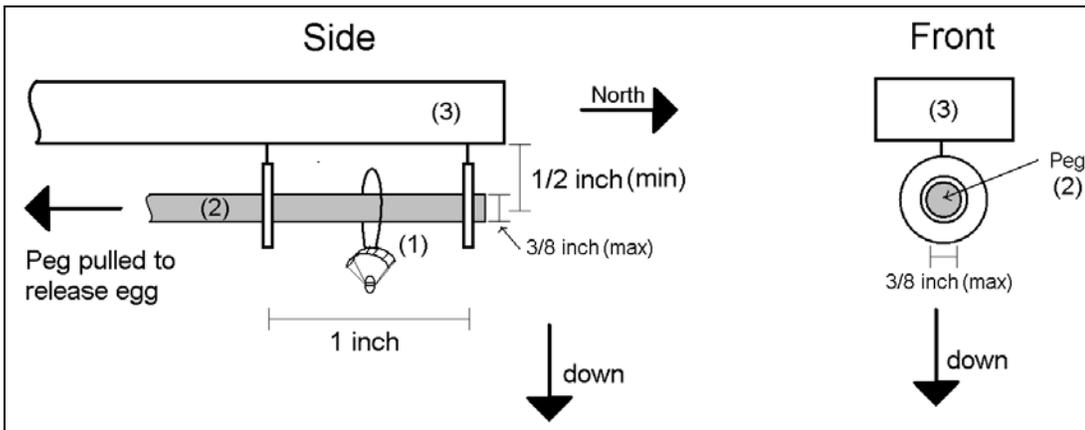

Figure 1: (1) Contraption Connected to Pin, (2) Release Pin, (3) Boom of Release Mechanism
- Be able to attach to the release mechanism, see Figure 1